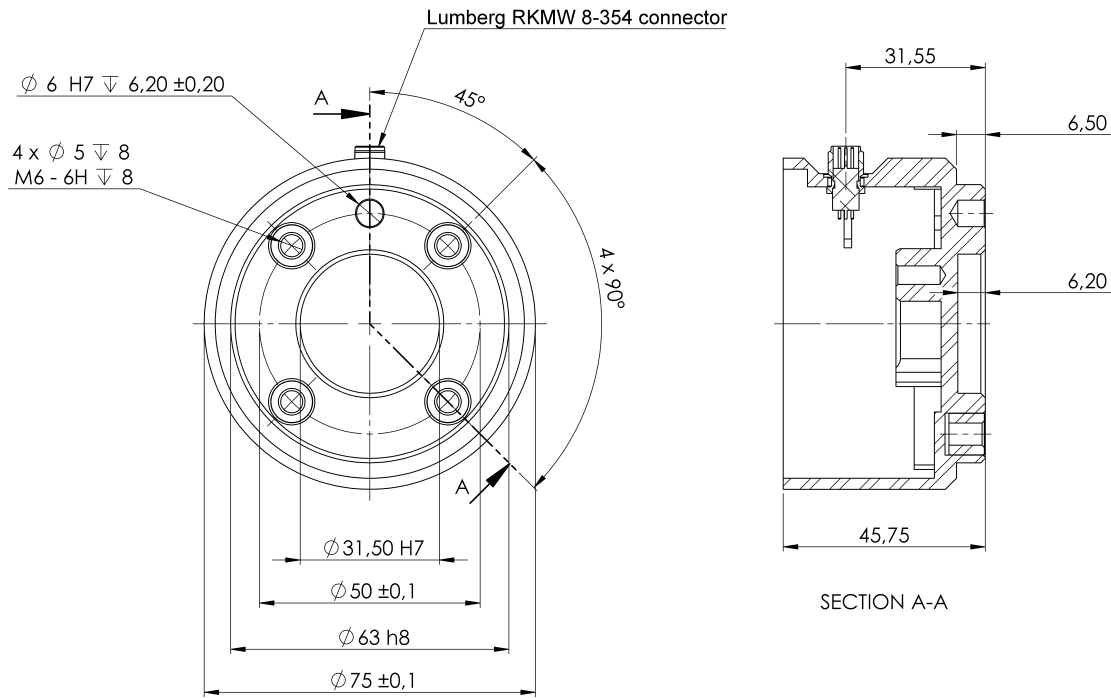

Figure 4.2: The tool output flange (ISO 9409-1-50-4-M6) is where the tool is mounted at the tip of the robot. All measures are in mm.
**Tool** The robot tool flange has four M6 thread holes for attaching a tool to the robot. The M6 bolts must be tightened with 8 N m, strength class 8.8. For accurate tool repositioning, use a pin in the Ø6 hole provided. Figure 4.2 shows dimensions and hole pattern of the tool flange. It is recommended to use a radially slotted hole for the pin to avoid over-constraining, while keeping precise position.